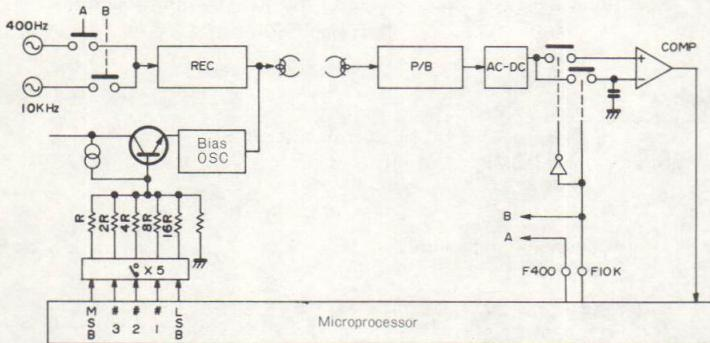

Fig. 9
a) and b) described previously are established in figure 9, so check it as reference.